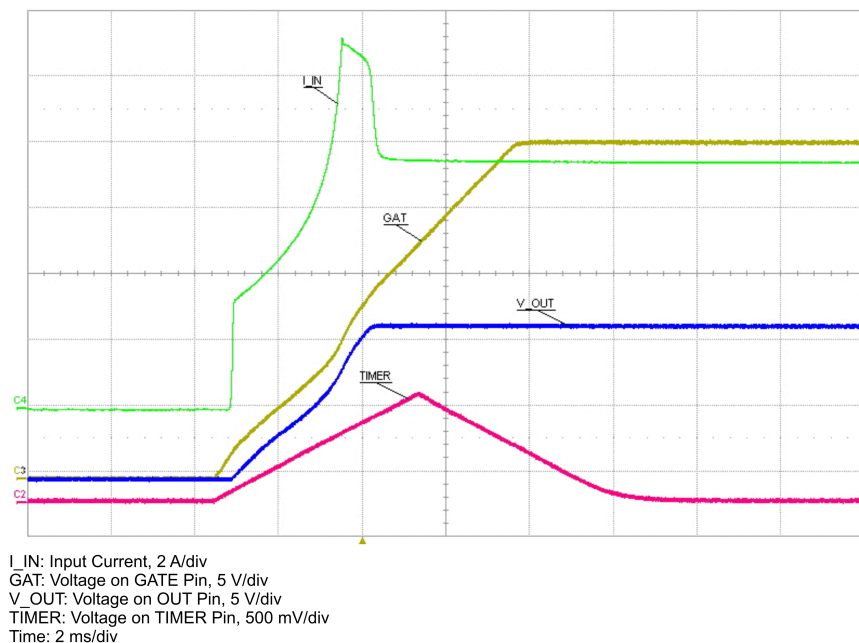
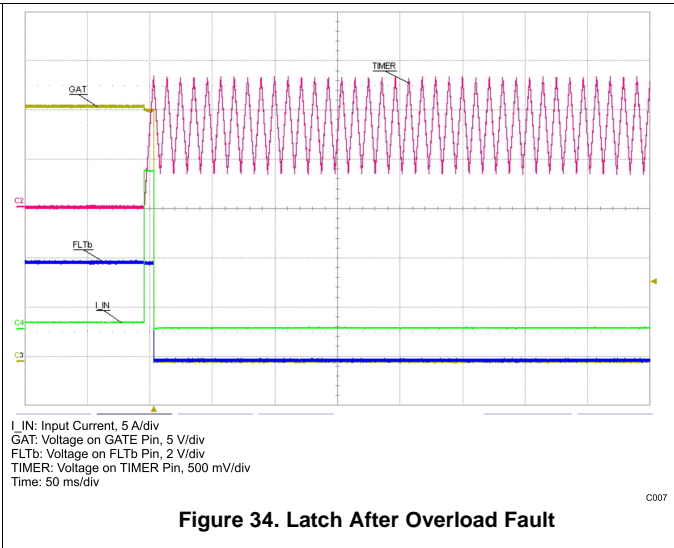

Figure 27. Inrush Mode at Hot-Swap Circuit Insertion
Figure 34. Latch After Overload Fault
The 典型应用 \(12V/10A\), and oscilloscope plots shown in Figure 27 through Figure 29 and Figure 31 through Figure 34, demonstrate many of the functions described previously.
Figure 27 and Figure 28 illustrate the inrush current that flows when a hot swap board under the control of the TPS24710/11/12/13 is plugged into a system bus. Only the bypass capacitor charge current and small bias currents are evident when a board is first plugged in. The TPS24710/11/12/13 is held inactive, for a short period while internal voltages stabilize. During this period GATE, PROG, TIMER are held low and PG, FLT, PGb, and FLTb are held open drain. When the voltage on the internal VCC rail exceeds approximately 1.5 V, the power-on reset (POR) circuit initializes the TPS24710/11/12/13 and a start-up cycle is ready to take place.
- In latch mode, the GATE remains low and the TIMER pin continues to charge and discharge the attached capacitor periodically until TPS24710/12 is disabled by UVLO or EN as shown in Figure 34.